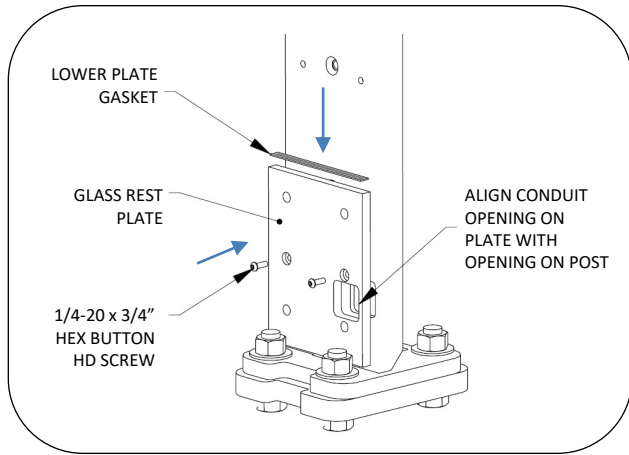

FIG. 11 – INSTALL GLASS REST PLATE
13. For back glass: Attach glass rest plate to main post, see Fig. 11 for orientation of plate.
14. Attach lower plate gasket to top of rest plate, see Fig. 11.